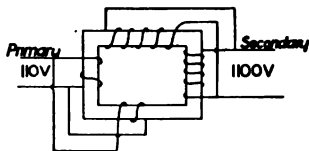

FIGURE 216. — 110 VOLTS TRANSFORMED TO 1100 VOLTS.
2. If the primaries are connected in parallel and the secondaries in parallel, the voltage will be $\frac{1}{1} \times 110 = 1100$. (Figure 216.)